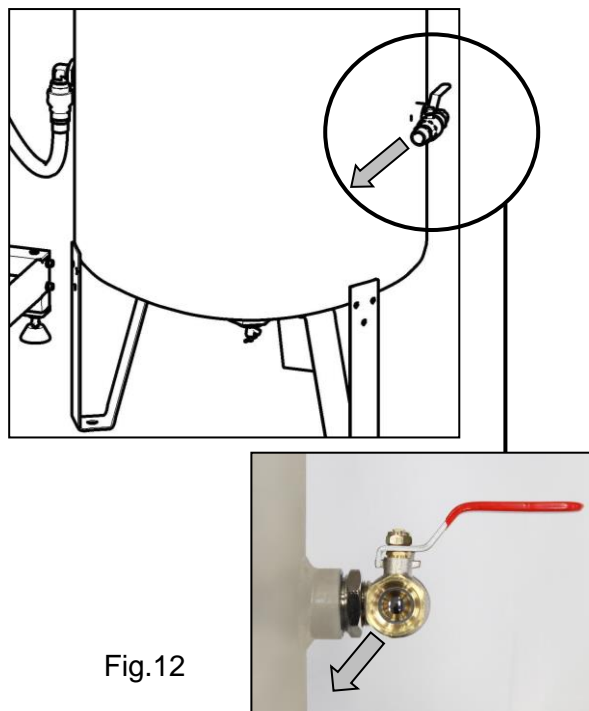

Fig.12
- A G3/4" threaded ball valve is installed on the compressed air outlet from the air tank (Fig.12)